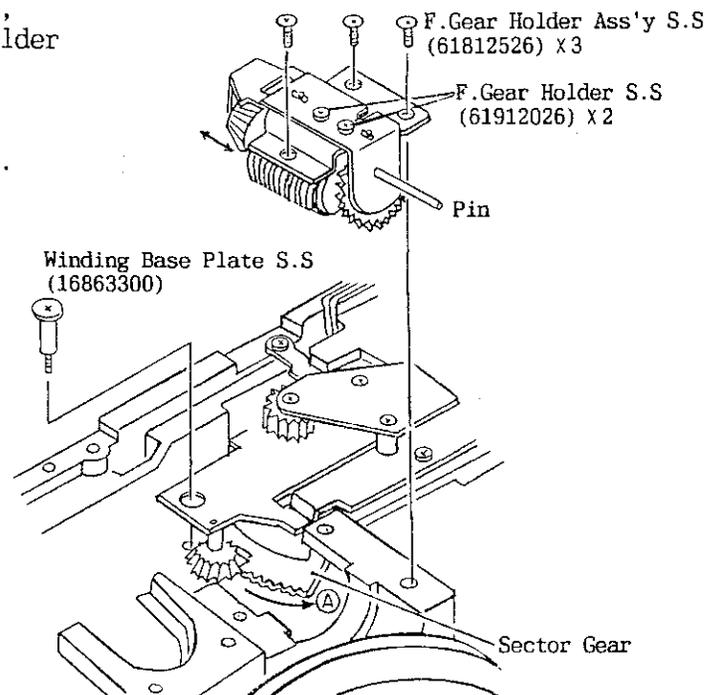

Fig.90
2) Position the Sector Gear on the lower side of the Body in the direction of the arrow (A). (See Fig.90)